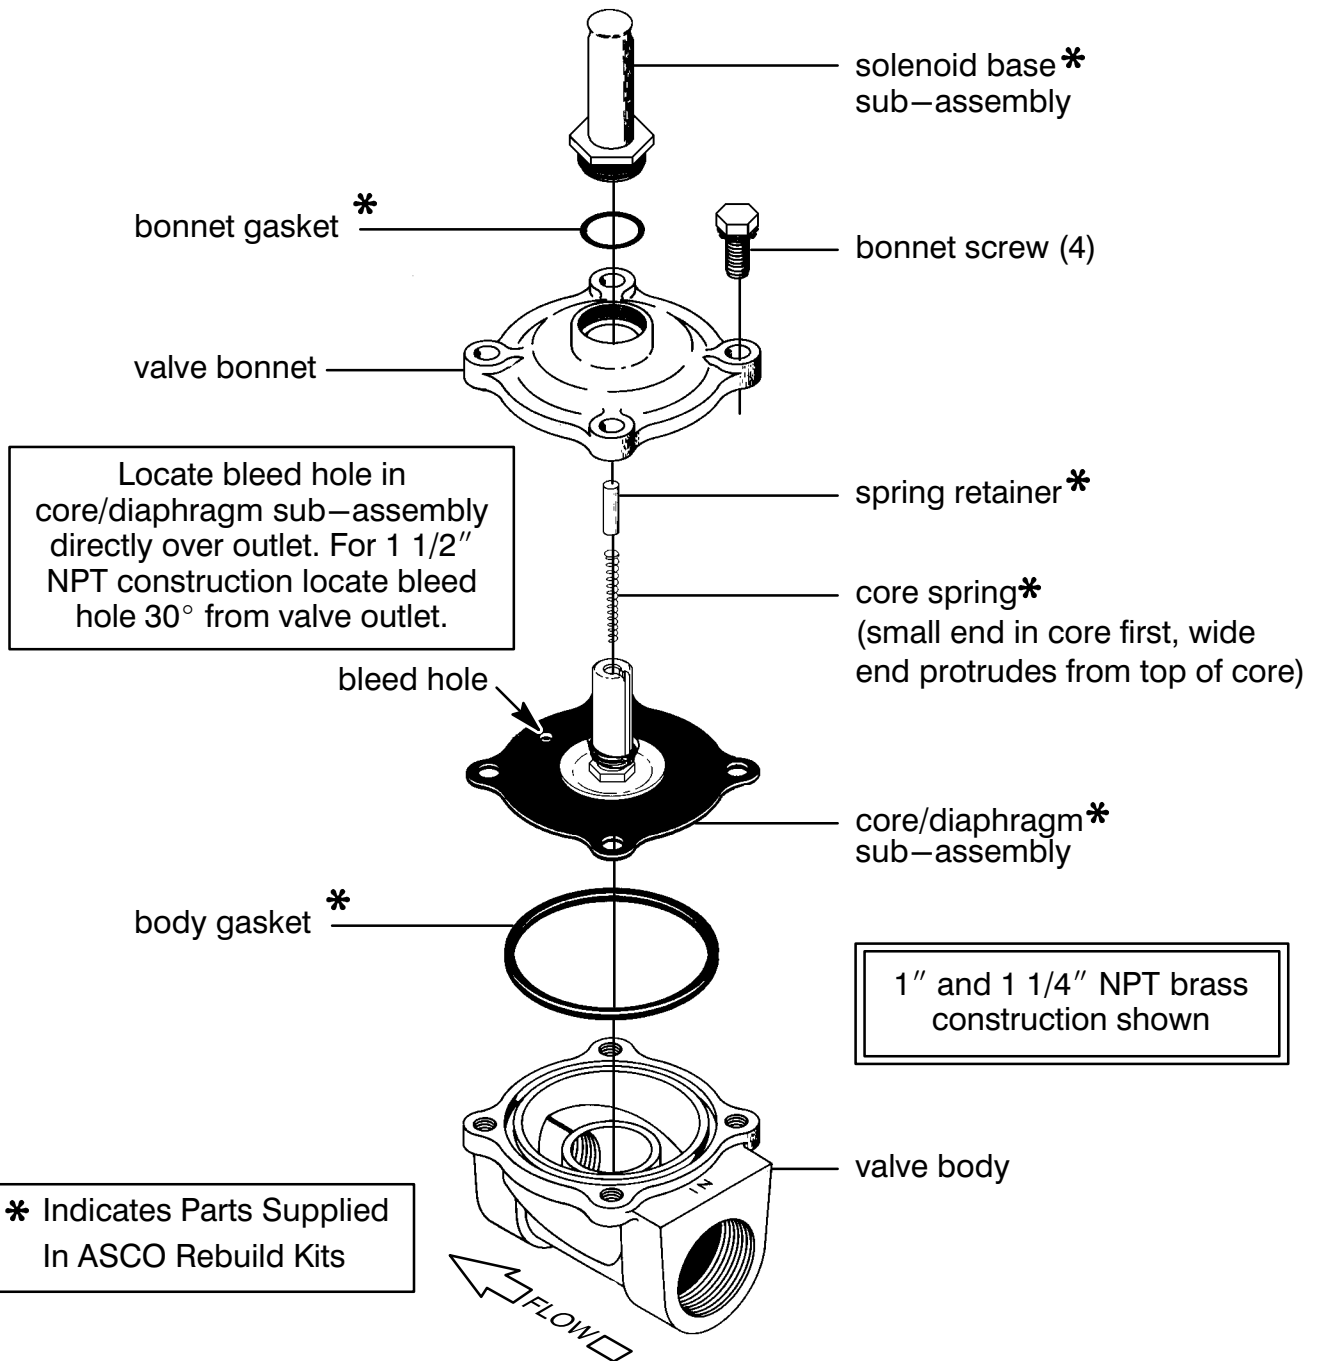
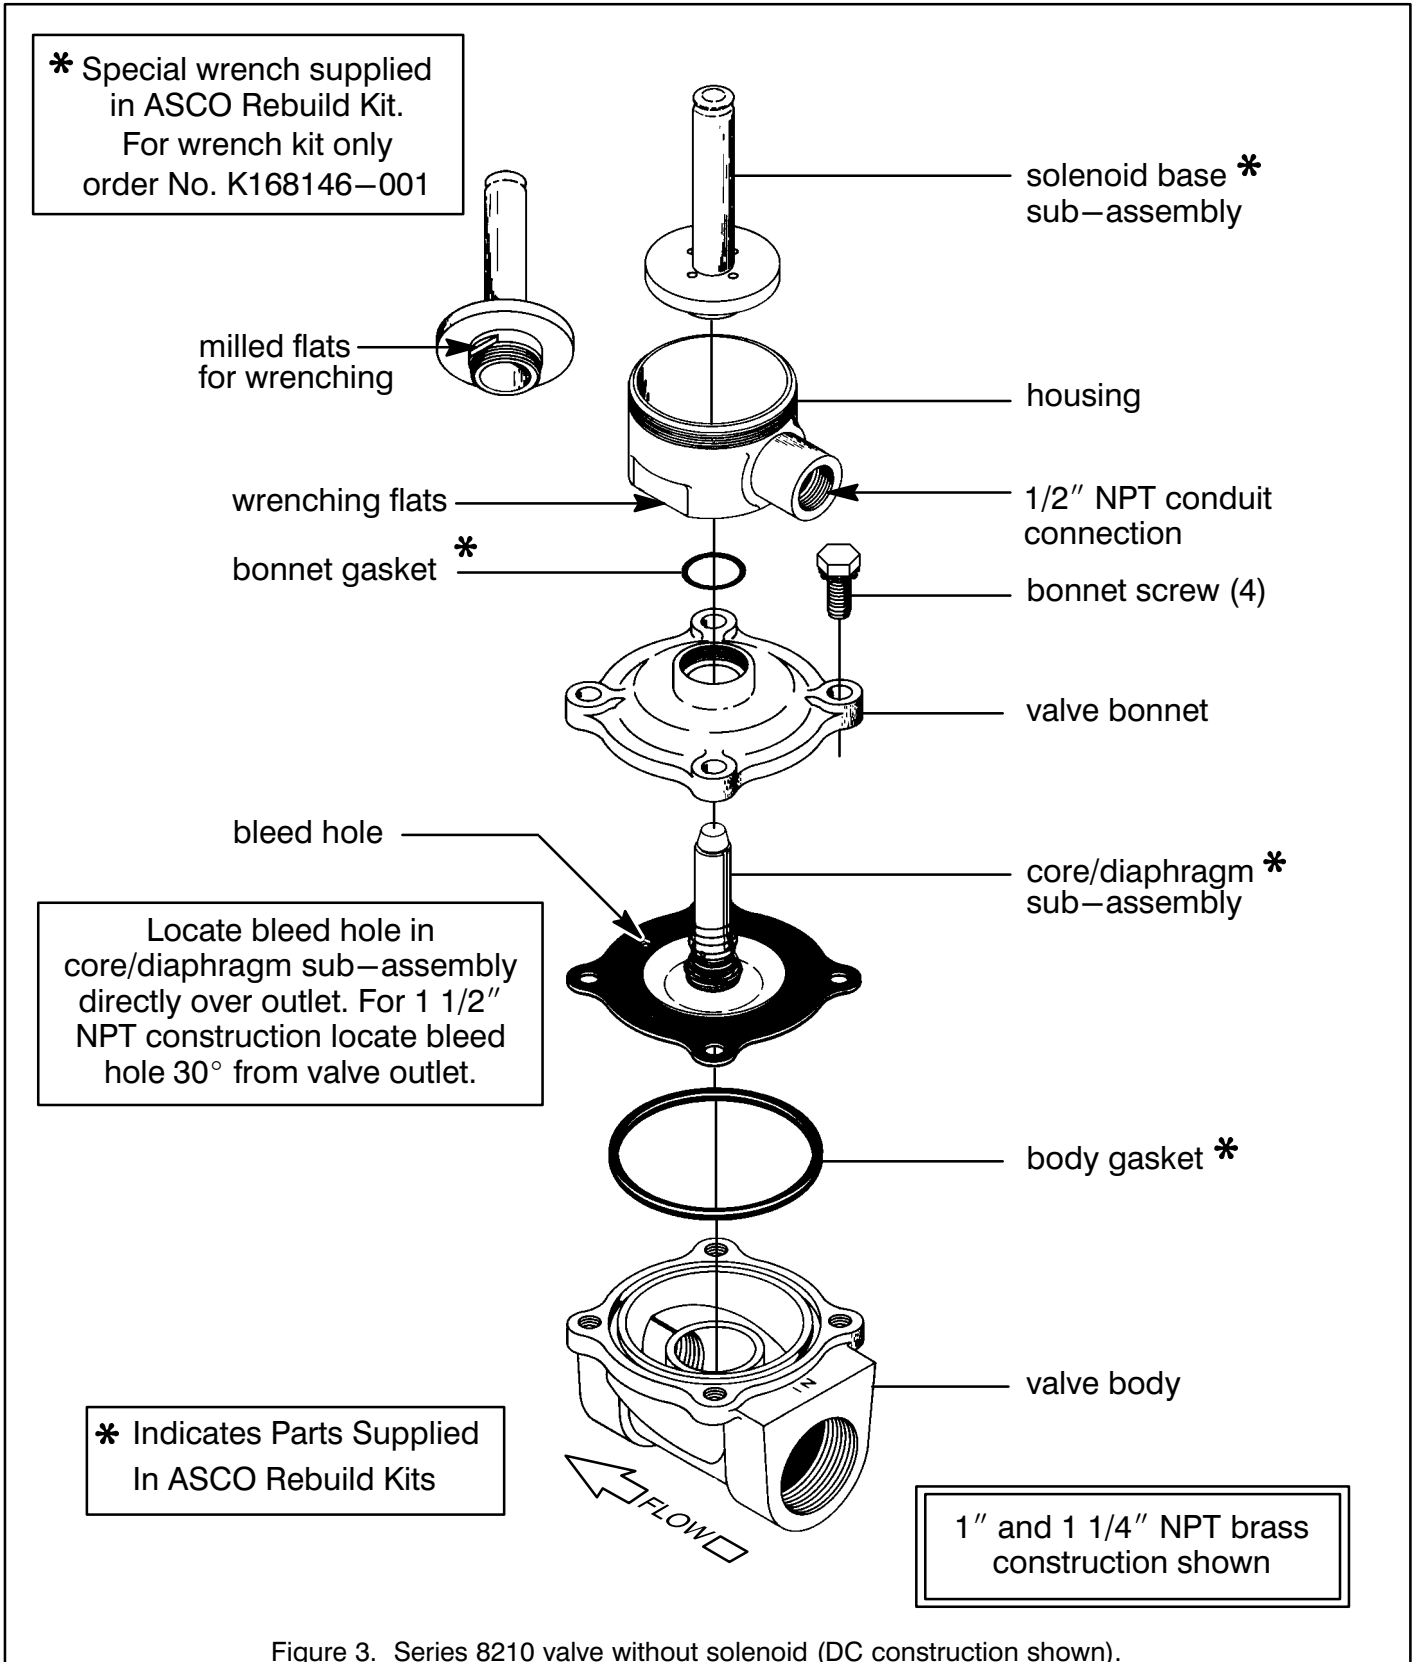

Figure 2. Series 8210 valve without solenoid (AC construction shown).
Figure 3. Series 8210 valve without solenoid (DC construction shown).
1. Disassemble valve in an orderly fashion using exploded views for identification and placement of parts. Refer to Figure 2 for AC construction; Figure 3 for DC construction.